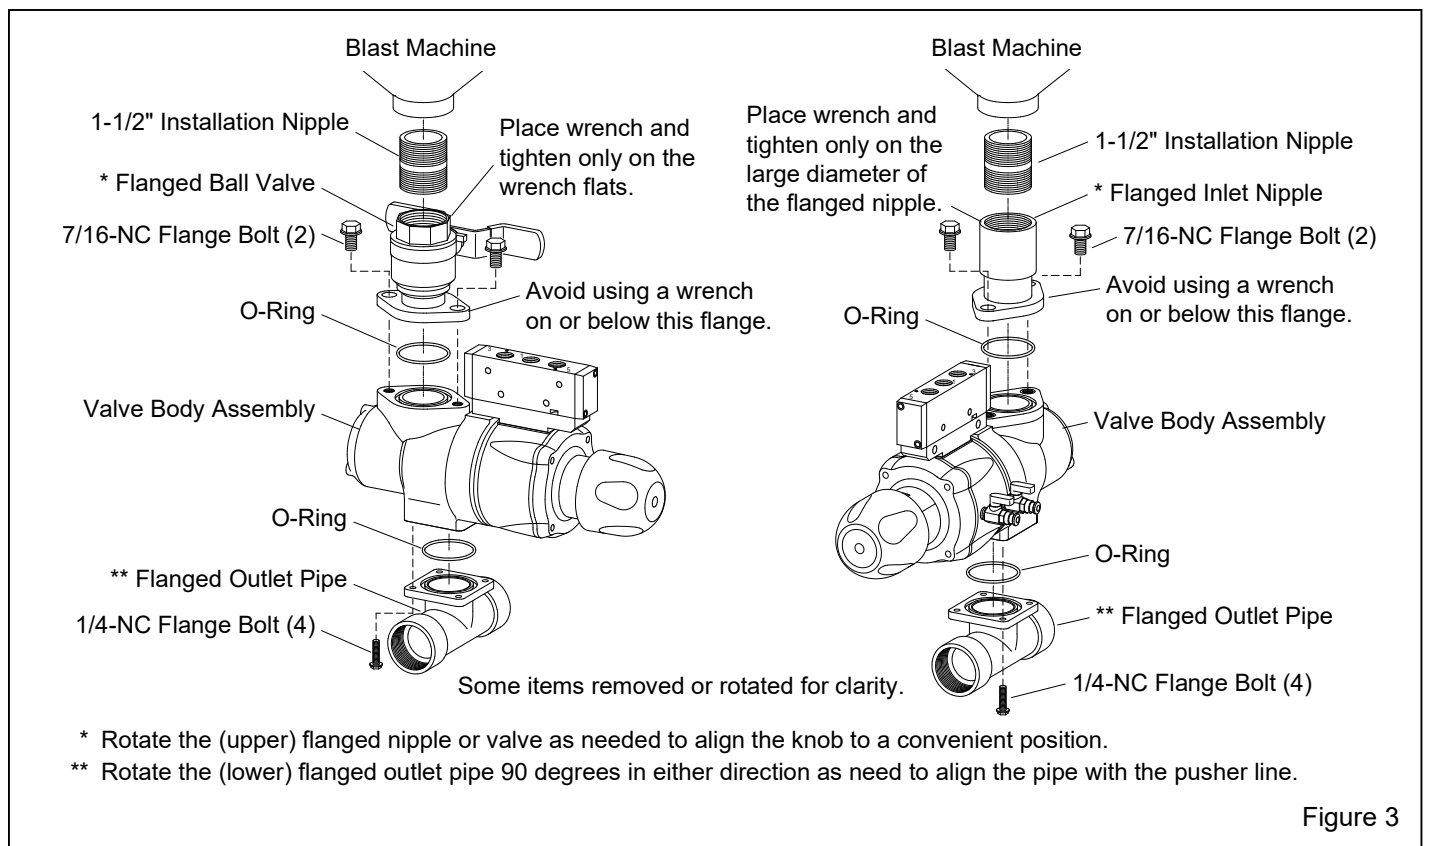

Figure 3
2.2 Install the GritWizard™ Valve onto the Blast Machine – Figure 3
Tighten and align the valve by using a wrench on the flanged inlet nipple or ball valve only, as shown in Figure 3. Avoid applying pressure on the valve body or outlet pipe (lower flange) to tighten or align the valve. Doing so could damage the upper or lower flanges.
2.2.2 Apply thread sealant to both ends of the 1-1/2" NPT installation nipple and use the nipple to attach the upper flange to the machine as, shown in Figure 3.
2.2.3 Use a pipe wrench or strap wrench to grip the valve body or body of the inlet nipple to tighten it onto the blast machine. Do not use a wrench on or below the flanges, as noted in Figure 3. Doing so could damage the flanges.